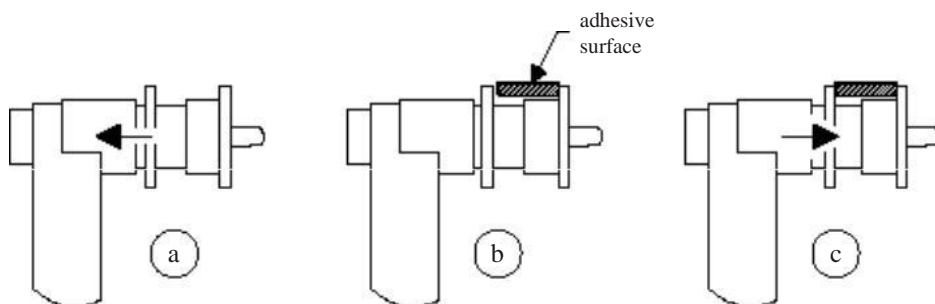

Fig. F3.12 Application of adhesive weights on the Distance/Diameter
2. Apply the weight shown on the left display (internal weight) on the Distance/Diameter sensor as seen in figure F3.12;